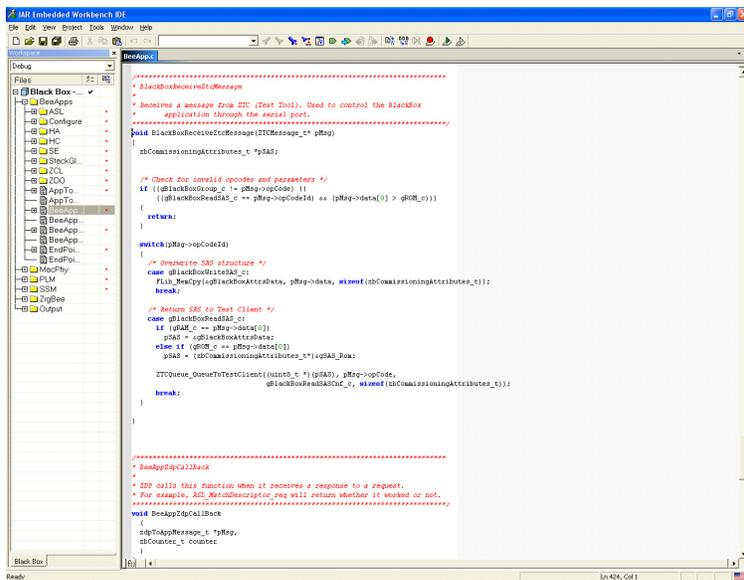

Figure 7-5. Integrated Development Environment
- As shown in Figure 7-5, the project can now be exported and opened in the Integrated Development Environment (IDE).